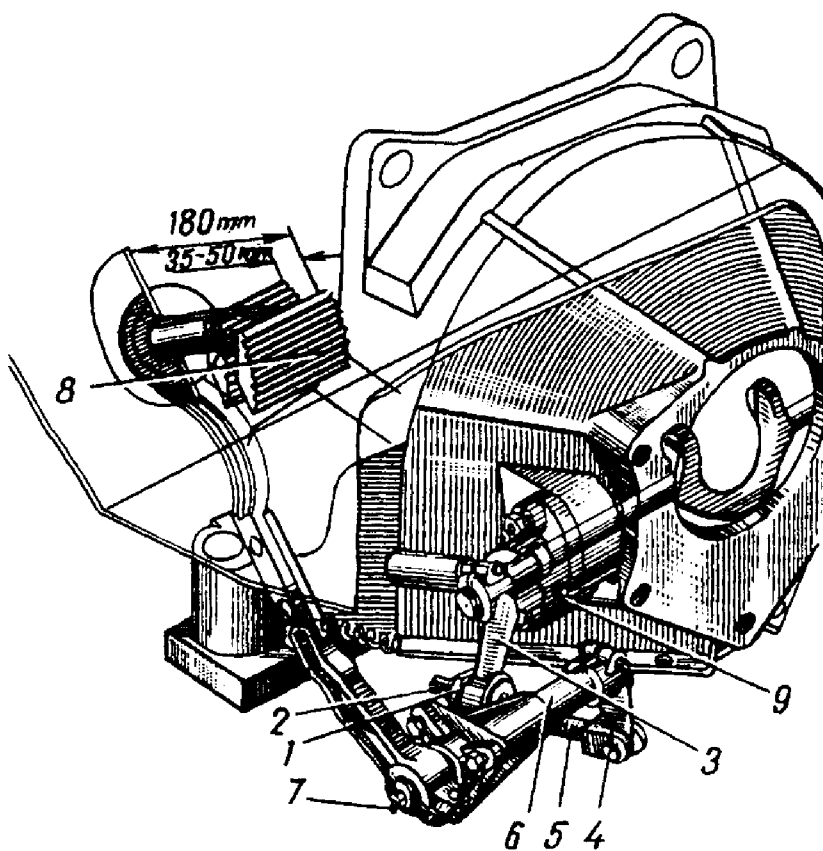

FIG.39. CLUTCH CONTROL LINKAGE
1. Unscrew lock nut 2 (Fig.39).